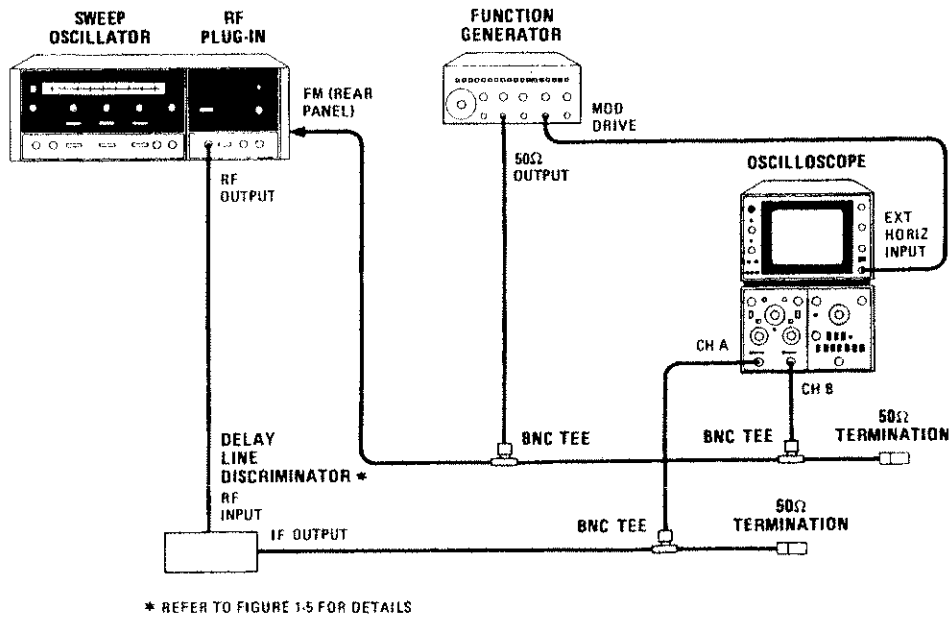

Figure 4-22. FM Frequency Response Test Setup
a. Connect equipment as shown in Figure 4-22. Press 8620C LINE switch ON. Allow 30 minutes warmup time.